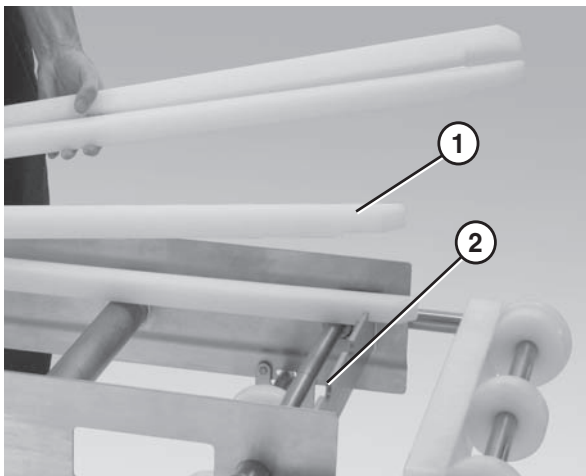

Figure 23
1. Position the wear strips (Figure 23, item 1) on the frame.
2. Make sure the wear strips are situated securely in the frame slots (Figure 23, item 2).